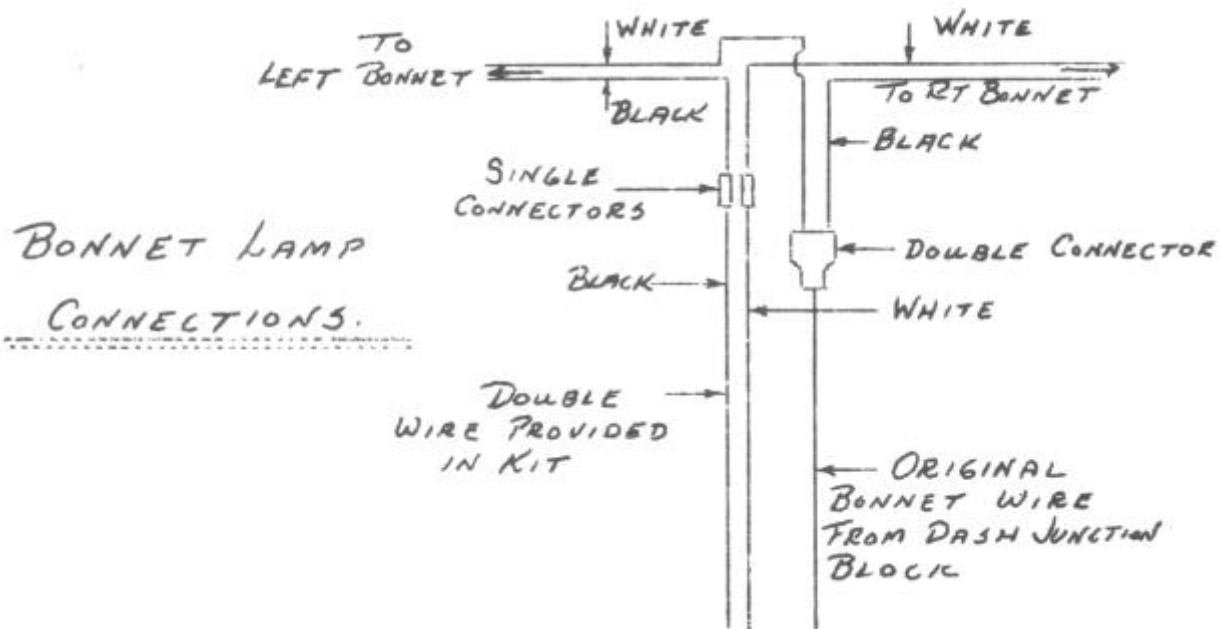
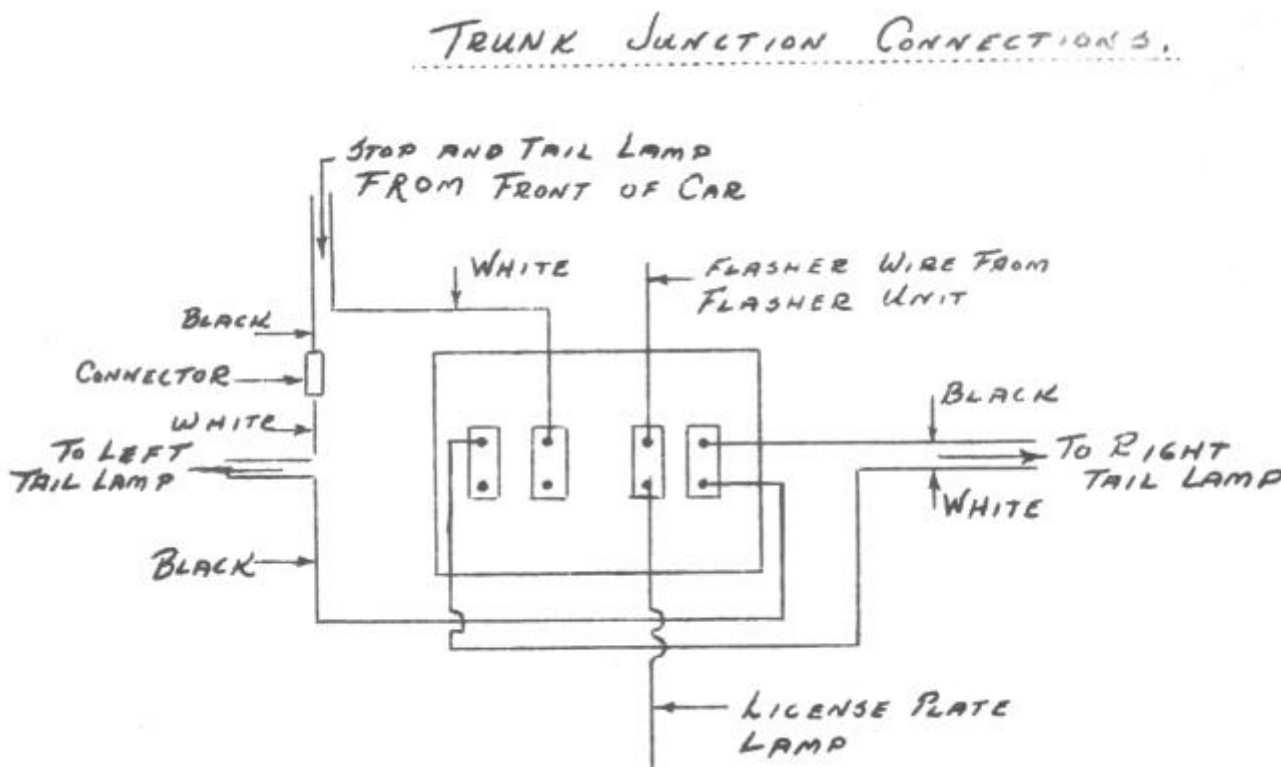

Figure 38--Direction Indicator Wiring Diagram - Front End
Figure 39--Direction Indicator
15. Connect the white wire just disconnected to the white wire from the flasher switch, Figure 38.
17. See note above and connect the green wire from flasher switch to the white wire on Figure 38.
25. Connect wires as shown on Figure 38.
28. Push this black wire referred to in item 16 (the long wire to go back to trunk compartment) over the top of cowl kick pad and down in behind it and through the hole in the bottom of the cowl.
31. Place wire inside the frame channel and fasten with clips and clip screws provided in kit. 32. Push wire up through the hole in the trunk floor where the fuel gauge wire comes through. Thread the wire through the hole in the rear seat back support. Place wire back through the rear compartment channel top wire clip. Follow around the channel with the other wires to the junction block and connect according to wiring diagram shown in Figure 39.